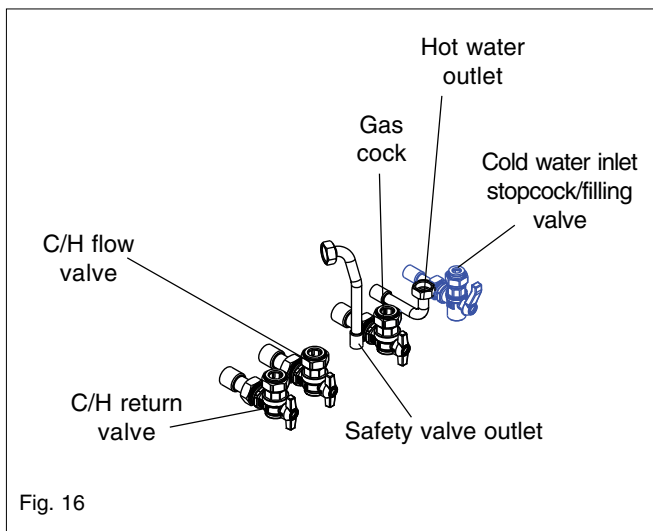

Fig. 16
**4.6.1 GAS (fig. 16)**
**4.6.2 FLOW & RETURN (fig. 16)**
**4.6.3 COLD WATER INLET (fig. 16)**
**4.6.4 HOT WATER OUTLET (fig. 16)**
#### 4.6.5 SAFETY VALVE (fig. 16)